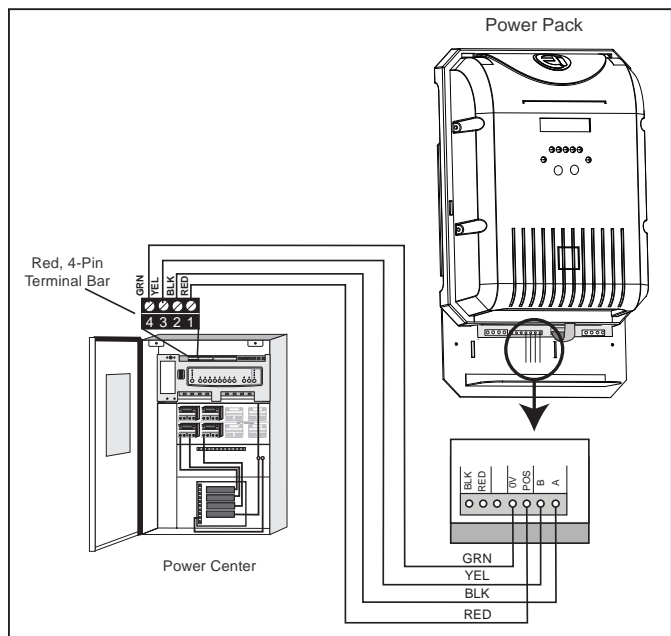

Figure 25. Communication Wiring between Power Pack and AquaLink RS Control System or PDA Network
6. The Jandy AquaLink™ RS or PDA and power pack use a four (4) wire connection to communicate and can be wired up to 152.4 m (500 ft) apart. Any outdoor rated four conductor cable, minimum 0.33 mm² (22 AWG), can be used. Locate the appropriate screw terminals on the circuit board and wire the power pack to the AquaLink RS or PDA red 4-pin terminal bar (see Figure 25).